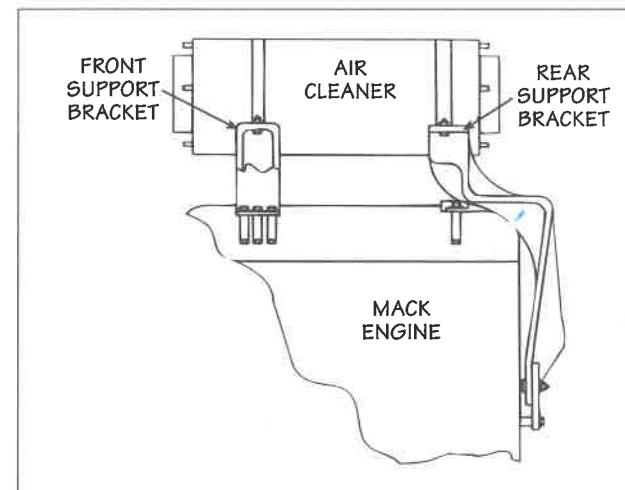

FIG. 32
Install the Jacobs MH Adapter Kit to raise the air cleaner for cover clearance when the engine brake is installed. MH Adapter Kits contain front (A) and rear (B) support brackets, mounting hardware and complete installation instructions required to raise the air cleaner (C) (see Fig. 32).